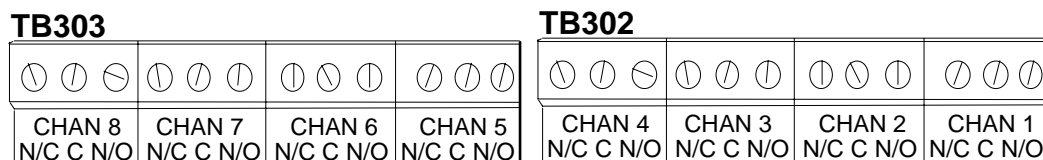

Figure 2-29. TB302 and TB303, wiring relays to equipment
9. To connect the relays to your equipment, use connector TB302 and TB303. See Figure 2-29.